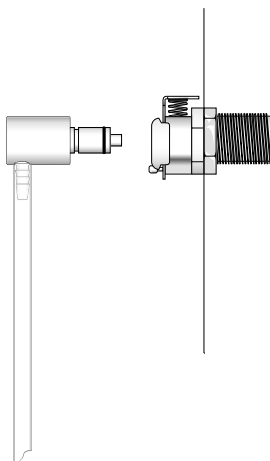

Figure B-13. Quick-Disconnect Fitting
3. Connect the open end of the quick-disconnect fitting (see Figure B-13) to the gas inlet on the lower-left side of the system (see Figure B-14).